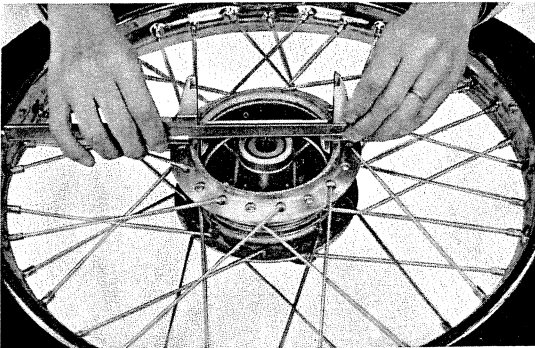

Fig. 103 Front brake drum measurement
- 4) Check wear of brake drum using a caliper. (Fig. 103)